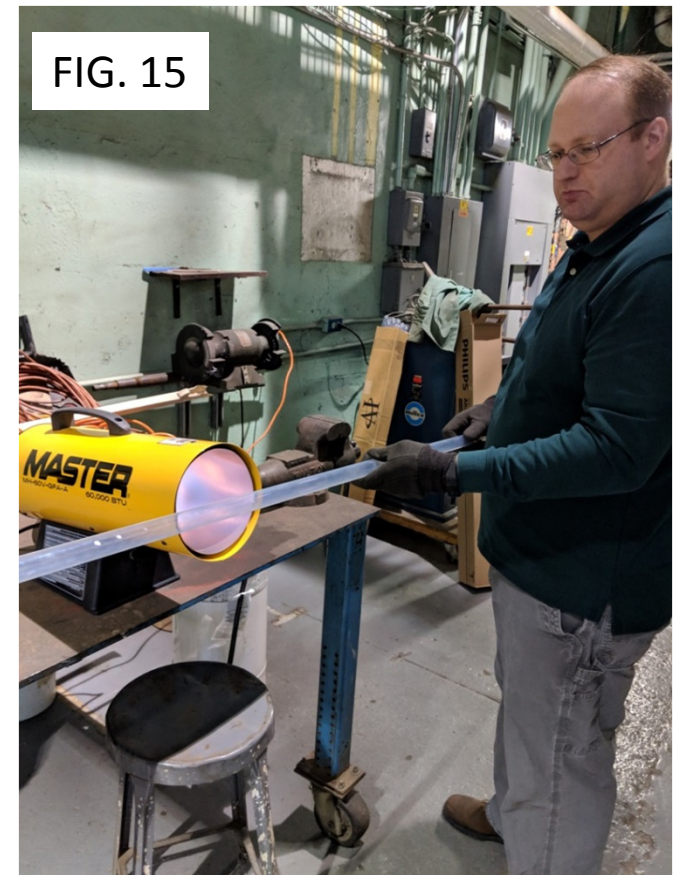

FIG. 15
- A forced-air heater works well for this task. It is important to keep the lamps and shrink tubing free from oils from your hands, so use **clean, new** cotton gloves when handling them. This will also protect your hands from the heat (Fig. 15).